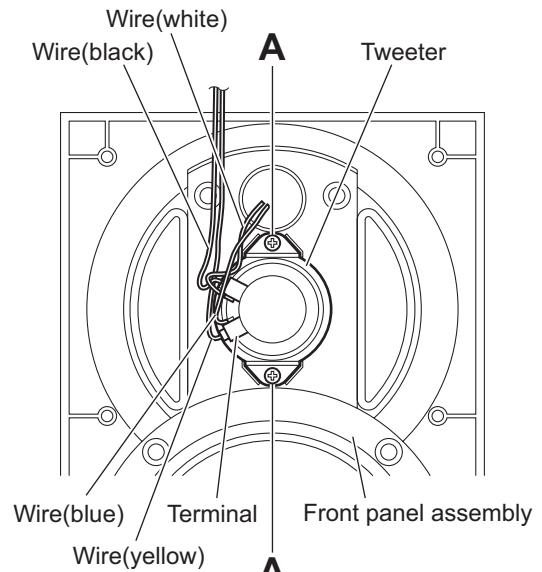

Fig.3
(2) From the inside of the front panel assembly, disconnect the yellow and black wires from the terminal of the tweeter. (See Fig.3.)
(See Fig.3)